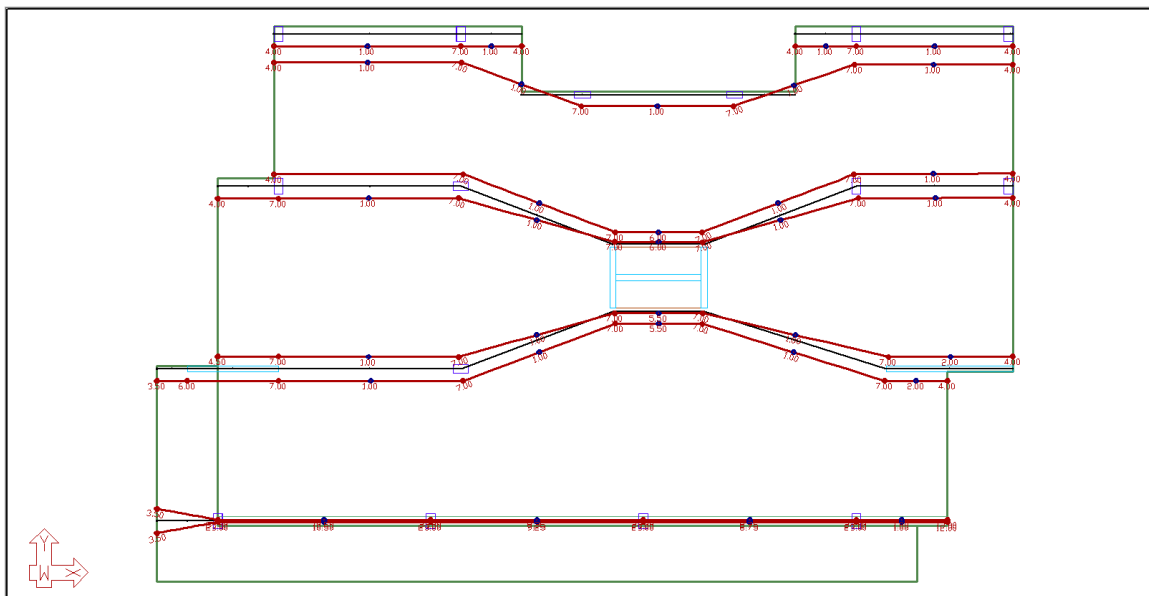

FIGURE 9-56
- At this point the user's screen should be similar to the screen shown in **FIGURE 9-56**.